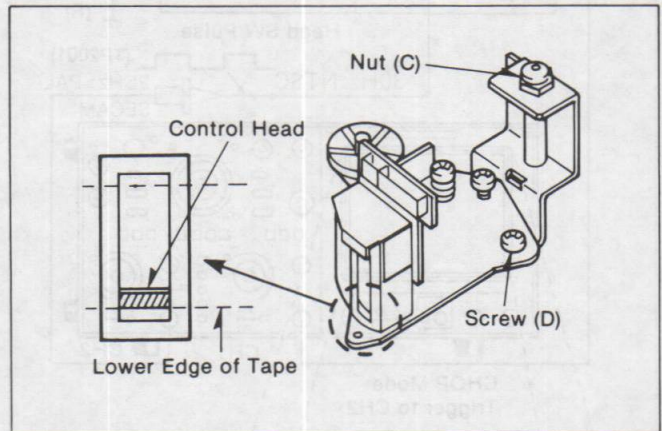

Fig. M29
With the tape running, look at the lower edge of the control head by using the check light and check if the lower edge of tape runs along the lower edge of the control head. If it doesn't, slightly turn the nut (C) behind the A/C Head (Fig. M29) to either lower or raise the A/C head so that the tape runs along the lower edge of the control head. Turn the nut (C) clockwise to lower the head, and counter-clockwise to raise it.